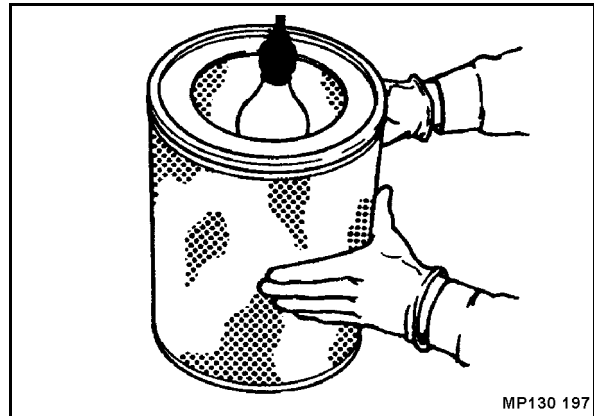

Fig. 187
- Examine the air filter with a torch for cracks and holes in the paper bellows (Fig. 187).